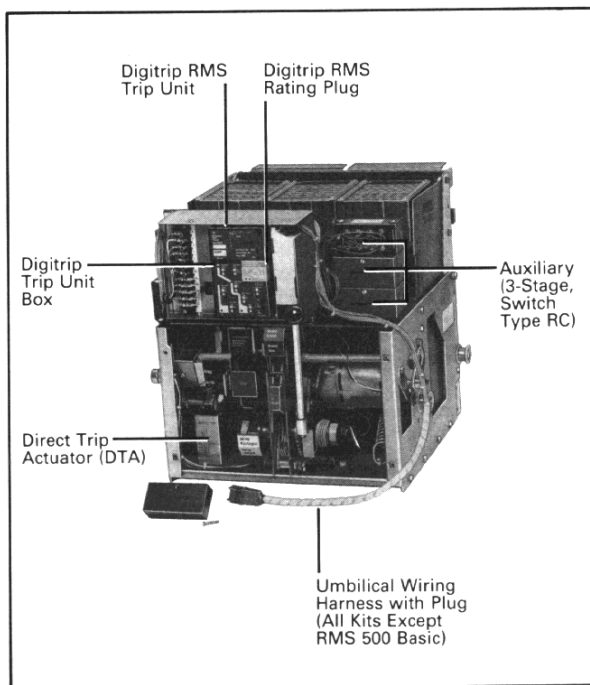

Fig. 3-1. DS-416 E.O. Breaker Equipped with Digitrip RMS 800 Retrofit Kit (Front View, Front Cover Removed)
1. These styles applicable to DS and DSL breakers equipped with type RC auxiliary switches only (See Fig. 3-1). DS and DSL breakers manufactured after 1988 may have Electroschwitch type auxiliary switches (see Fig. 9-1). If the breaker has Electroschwitch type auxiliary switches, contact Westinghouse for the correct style number to cover switch addition.
Your Digitrip RMS Retrofit Kit is designed to replace the existing Amptector Trip System employed on the DS or DSL Breaker selected for retrofitting. Figs. 3-1 and 3-2 show a typical DS Breaker equipped with a Digitrip RMS 800 Retrofit Kit. The RMS 800 Retrofit Kit was selected to show the maximum information possible to aid in the description of all model kits.
Digitrip RMS Retrofit kits include a 700 ohm (nominal impedance) Direct Trip Actuator (DTA), which replaces the existing DTA originally provided with the Amptector Trip System. The DTA, Figs. 3-1, 3-3, and 3-9, receives an electrical trip pulse from the trip unit and provides the mechanical trip force to trip the breaker.